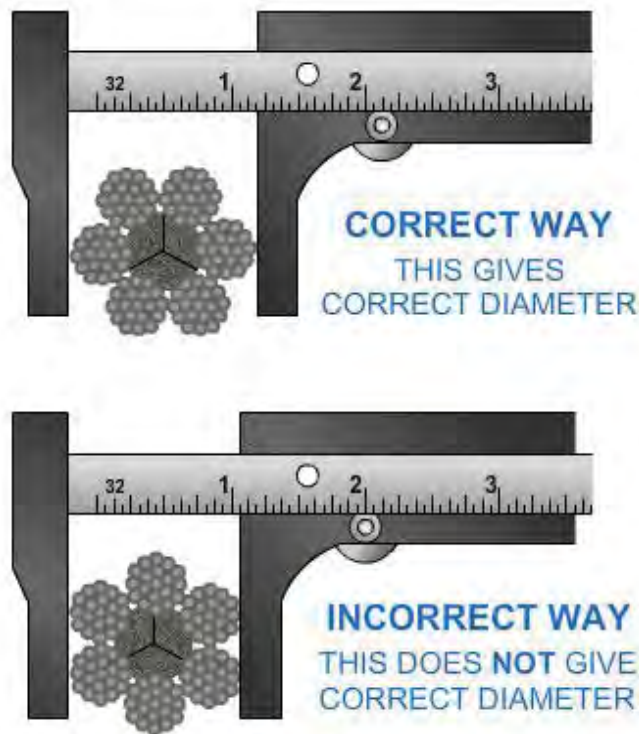

Figure 21-66 – Measuring wire rope.
- **Wire Rope Wear** – Measure wire rope with wire rope calipers (*Figure 21-66*) to check for wear accurately. Replace wire rope that has wear of one third of the